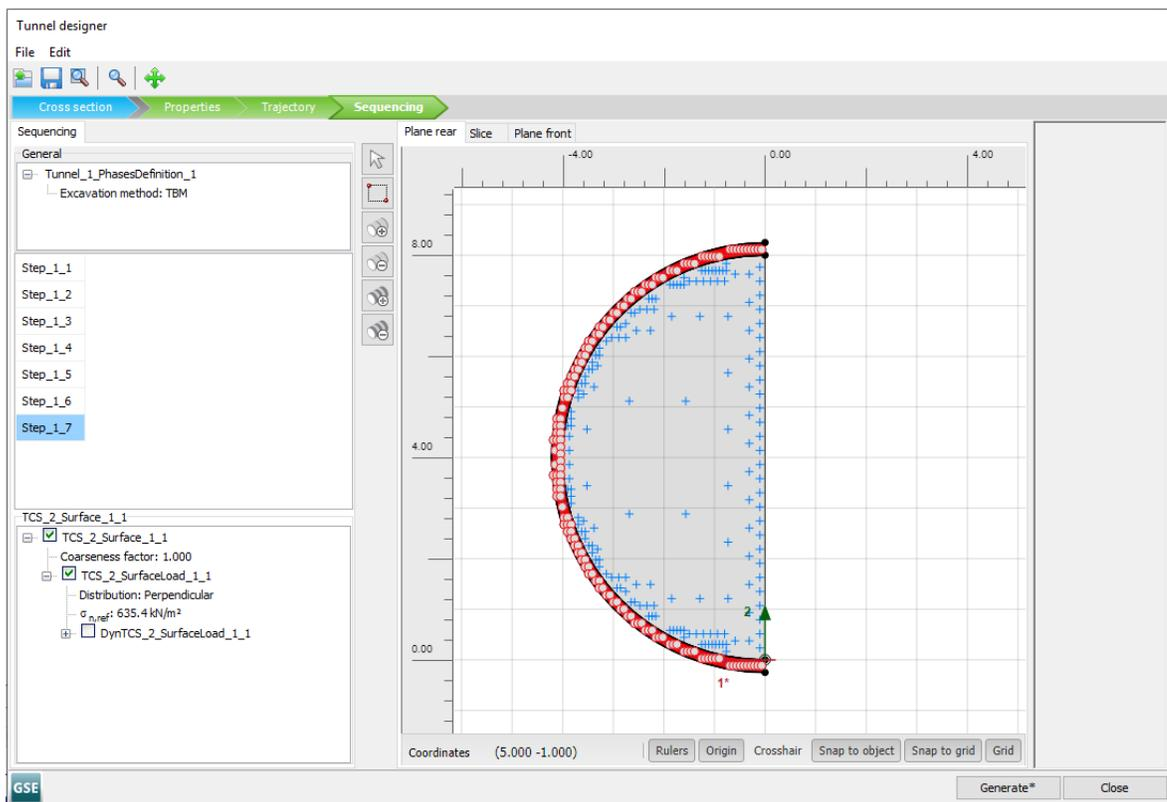

Figure 83: Plane Rear tabsheet in the **Tunnel designer** Step_1_7
- In the **Selection explorer**, activate the surface load and select the *Perpendicular* option for the distribution with $\sigma_{n,ref} = 635.4 \text{ kN/m}^2$ (Figure 83 (on page 110)).
- In the **Selection explorer**, deactivate the surface load corresponding to the thrusting jacks (Figure 83 (on page 110)).